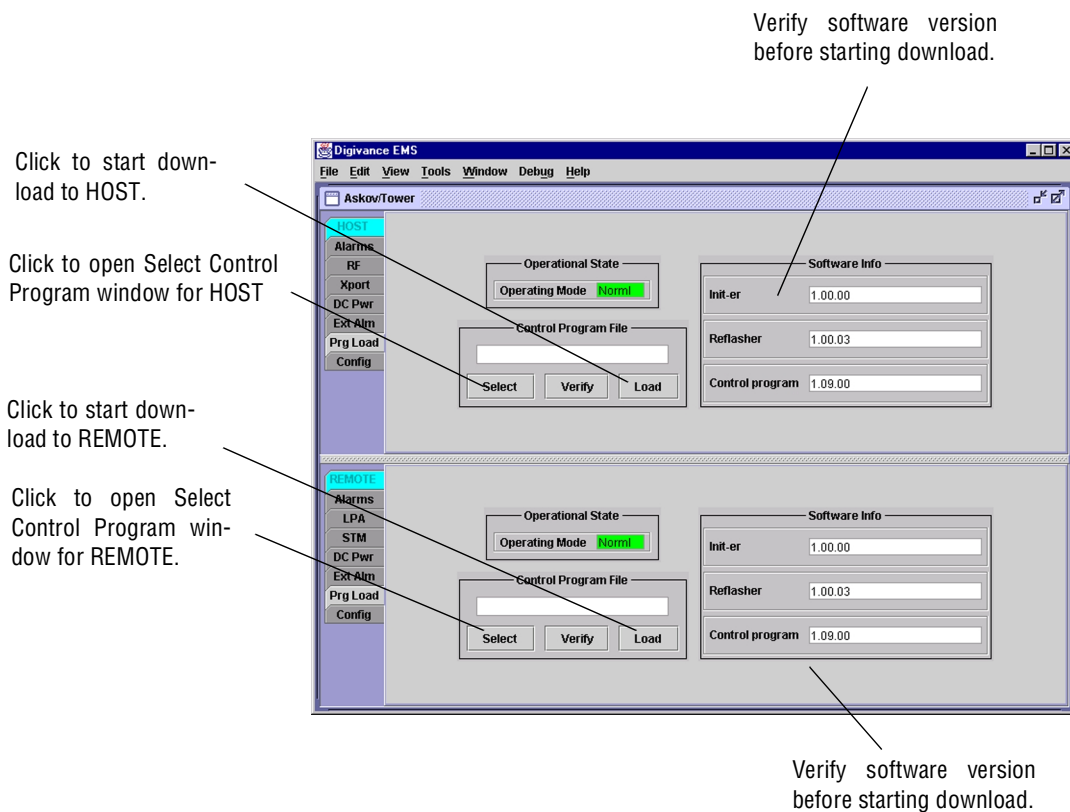
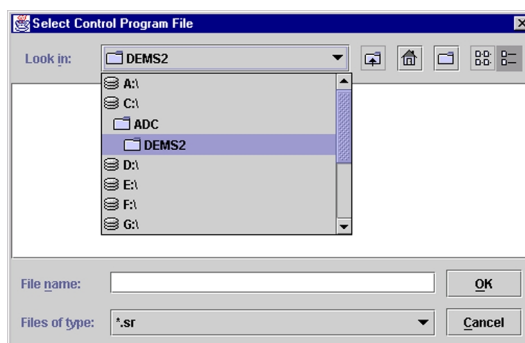

Figure 4-3. HOST and REMOTE Prg Load Displays
Figure 4-4. Select Control Program File Window
1. Click on the **HOST Prg Load** tab and on the **REMOTE Prg Load** tab. The **HOST Prg Load** display and the **Remote Prg Load** display will open within the EMS main window as shown in Figure 4-3.
2. Click on the **HOST Select** button (see Figure 4-3). The **Select Control Program File** window will open as shown in Figure 4-4. Browse until the folder where the Control Program files are located is selected and the software files are displayed in the window.
5. Click on the **HOST Load** button (see Figure 4-3) to start the download.